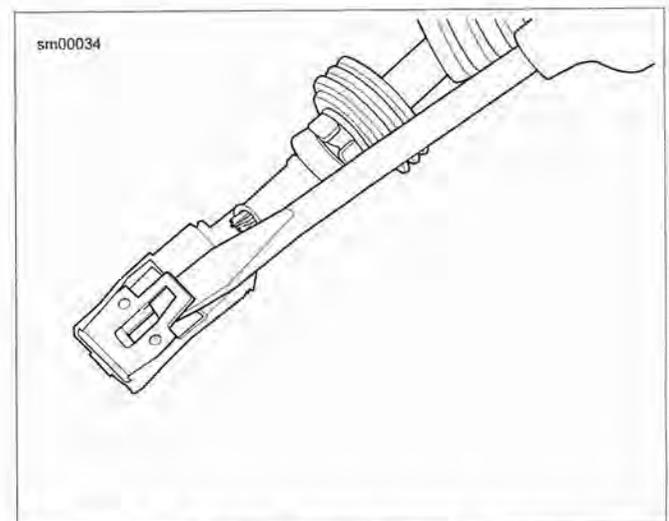

Figure A-12. Delphi 800 Metri-Pack Sealed Main Fuse Housing: Bend Tang
1. See Figure A-12. Carefully bend tang outward away from the terminal body.